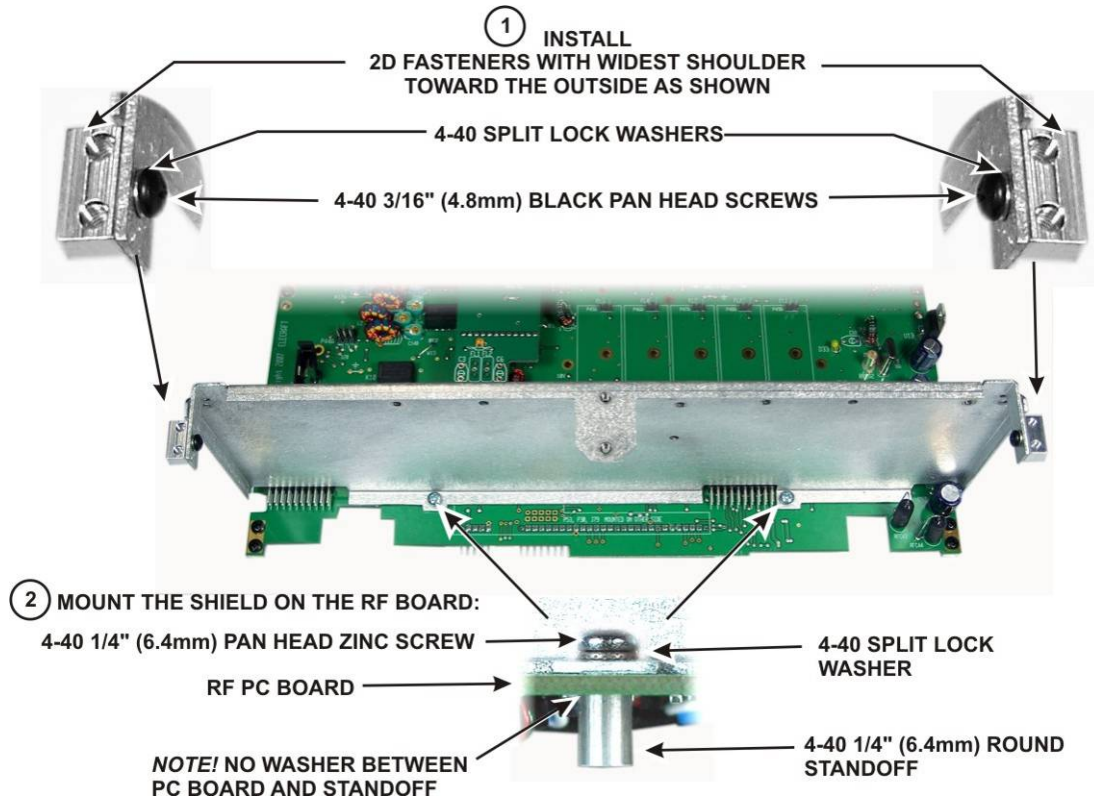

Figure 39. Installing Front Panel Shield.
□ Mount a 2D fastener on each ear of the front panel shield, and then mount the shield on the RF board as shown in Figure 39. Be sure the 2D fasteners are oriented with the widest part between the two holes and the edge toward the outside as shown.